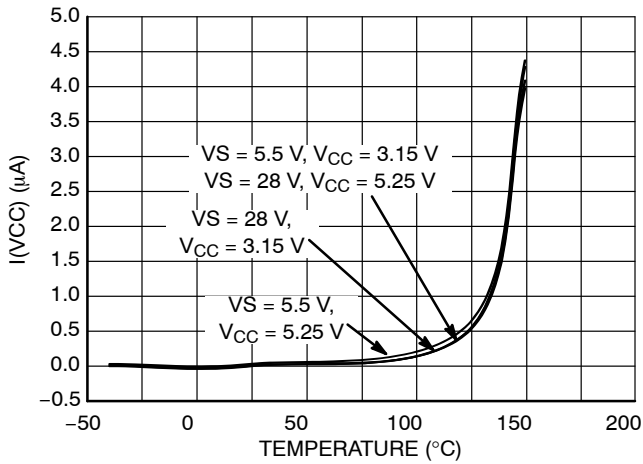

Figure 17.  $I(V_{CC})$  vs. Temperature
- Refer to Figure 17 for the VCC standby current behavior.